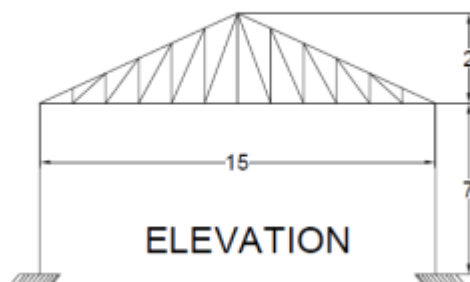

Figure 3
- Q-4** Calculate nodal Dead load, Live load and wind load for roof truss of an industrial building as shown in **Figure 3** with 15 m span and 40 m long. The roofing is galvanized iron sheeting. Spacing between two consecutive trusses is 5 m. The basic wind speed is 50 m/s and terrain is open industrial area and building is class A building. The building clear height at the eaves is 7 m. [07]